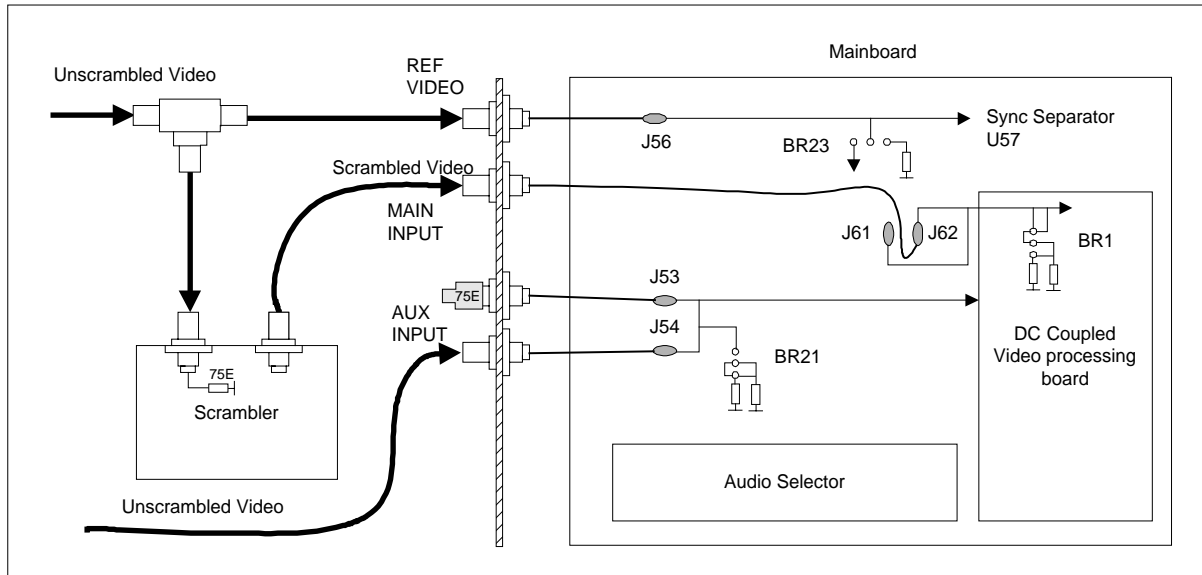
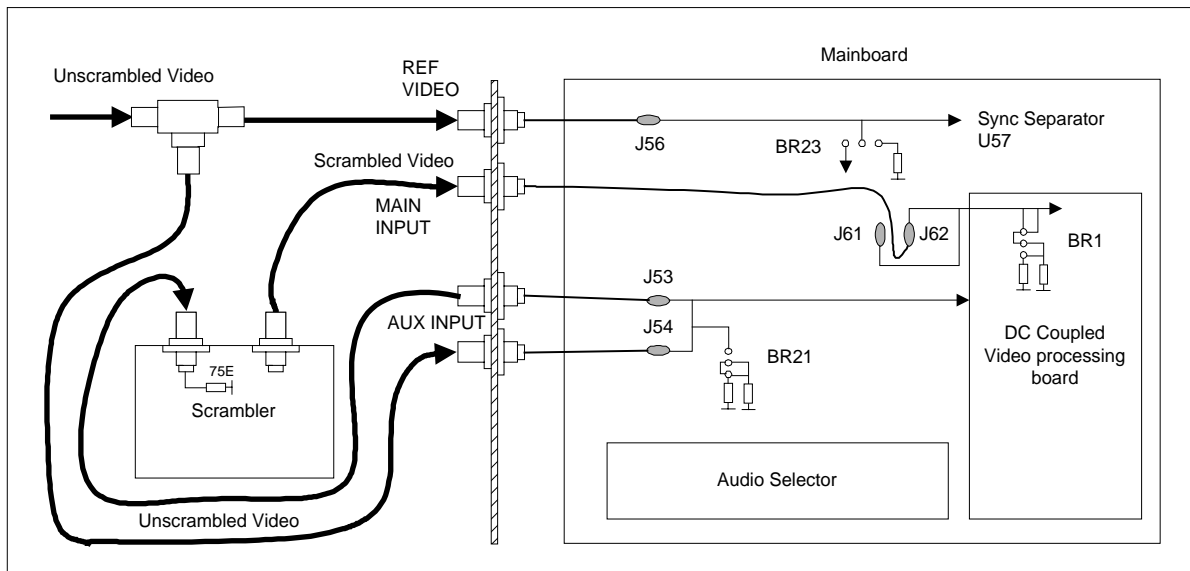

Figure 1 : Connection Diagram Scrambler - Pulsar
Figure 2 : Connection Diagram Scrambler - Pulsar
**Figure 1:** The UNSCR VIDEO enters the PULSAR via a BNC T-connector where the signal is branched to the REF VID input connector in order to separate the sync pulses for locking the pilot on the stereo coder module. The other direction of the T-connector leads to the scrambler. The scrambled signal is connected now to the main input. In this case, there is a different signal connected to the main (SCR) and the aux (UNSCR) input. The signal on the aux can be e.g. a test pattern.
**Figure 2:** Basically, the principle is the same as in figure 1, except that the same signal is connected to the main (SCR) and the aux (UNSCR) input. Remark that on the main input the signal is scrambled and on the aux input the same signal is unscrambled. One the of the T-connector is still put on the REF VID input of the PULSAR, while the other side is connected to the aux input. Via the standard loop through connection (BR21 must be put into the non-default position) of the aux input, the signal enters the scrambler.